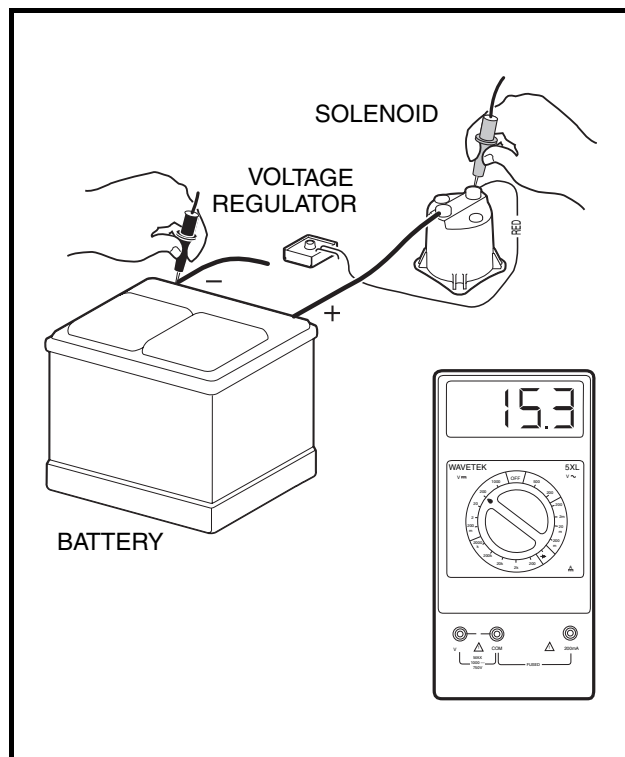

Figure 11-14 Voltage Regulator Test
5. Turn the key switch to OFF, killing the engine. Using a multimeter set to 20 volts DC, place the red (+) probe on the large post of the solenoid with the red wire from the voltage regulator attached. Place the black (–) probe on the negative (–) battery post (**Figure 11-14, Page 11-18**). Turn the key switch to the ON position. Press the accelerator to start the engine and run it at full governed speed. If the reading is between 14.7 and 15.3 volts, the regulator is good. If the reading is lower than 14.7 volts but rising steadily, check battery condition. **See Hydrometer Test on page 11-8.** If the reading is lower than 14.7 volts and not rising, and the starter/generator is good; or if the reading is over 15.3 volts and continues to rise, replace voltage regulator. **See Voltage Regulator Removal, Section 12, Page 12-12.**